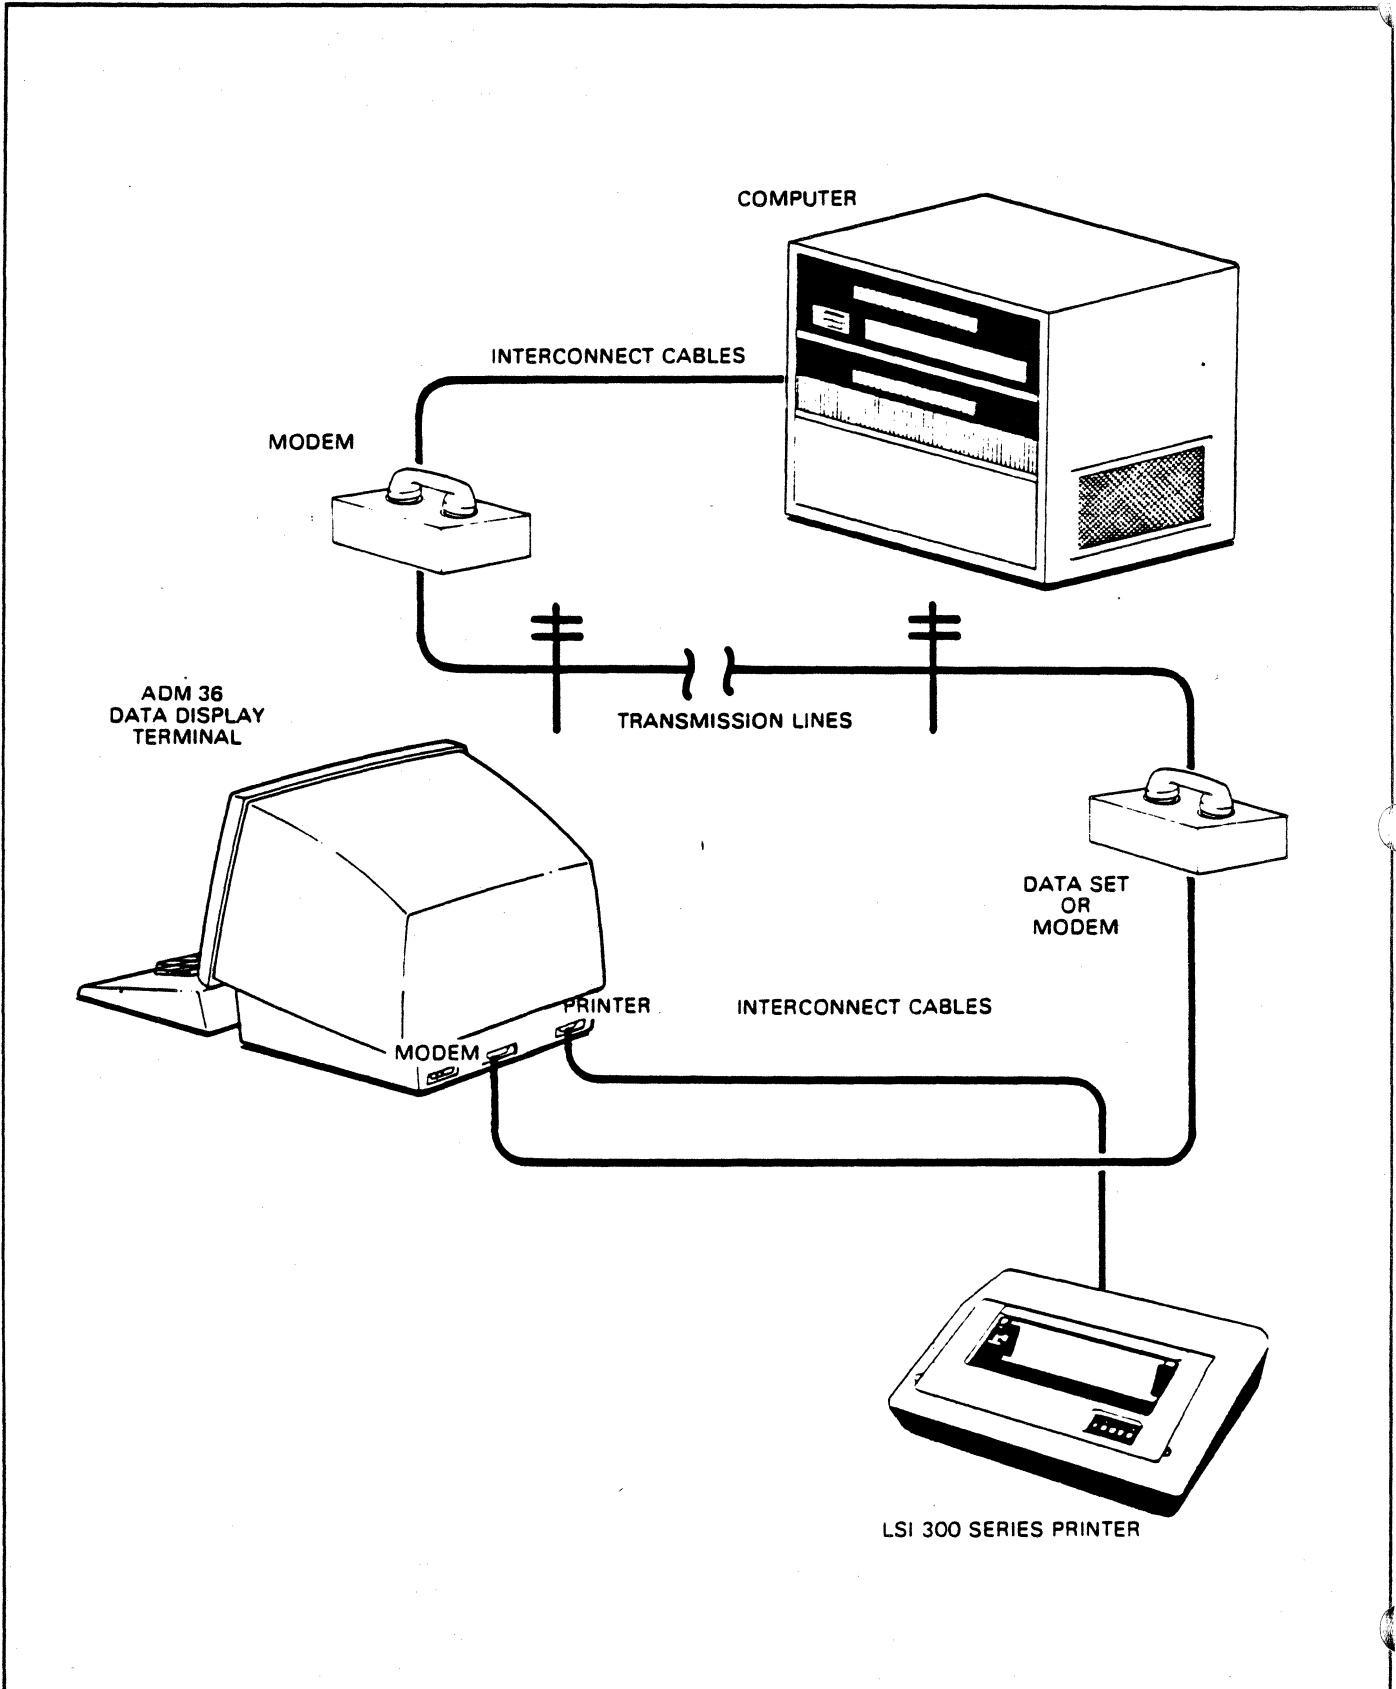
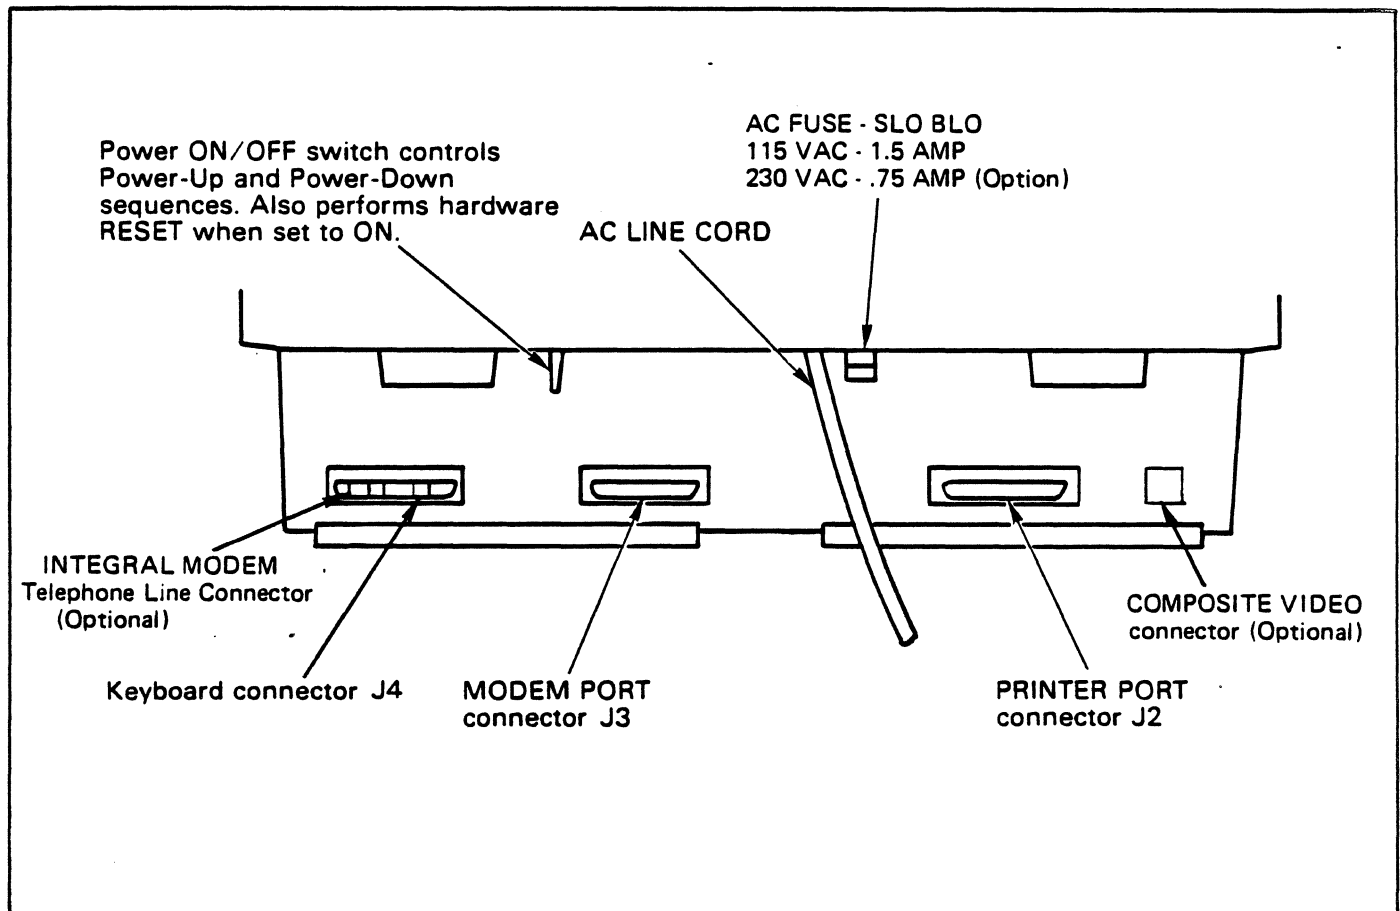

Figure 2-6. Typical ADM 36 Applications
Figure 2-7. ADM 36 Panel Controls
anywhere in the world. Remote computer connections require the use of a modem or data set figure 2-6 shows a typical ADM 36 application, while figure 2-7 shows the rear panel location of the interface connectors.
1. Check the ON/OFF switch (figure 2-7) to ensure that it is set to OFF.
1. Set the ON/OFF switch to ON. (See figure 2-7.)
Refer to figure 2-7 and proceed as follows: